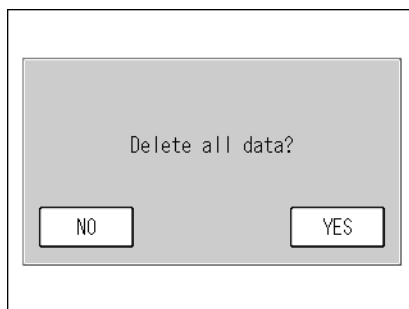

Fig. 50 Message confirming data deletion
- [DELETE]: Displays the message confirming data deletion (Fig. 50 on page 41).